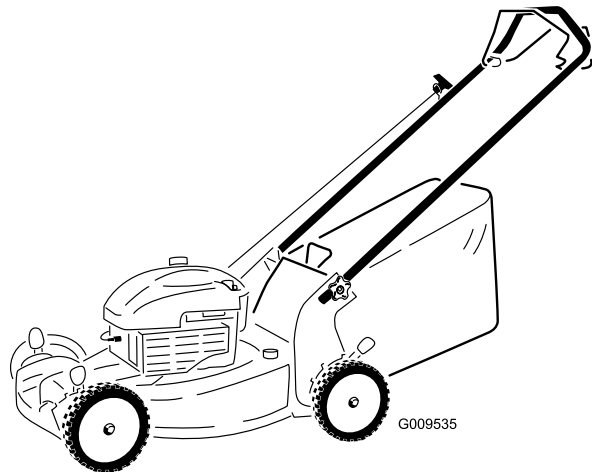

Figure 12
1. Raise and hold up the rear deflector (Figure 12).
2. Install the grass bag, ensuring that the pins on the bag rest in the notches on the handle (Figure 12).